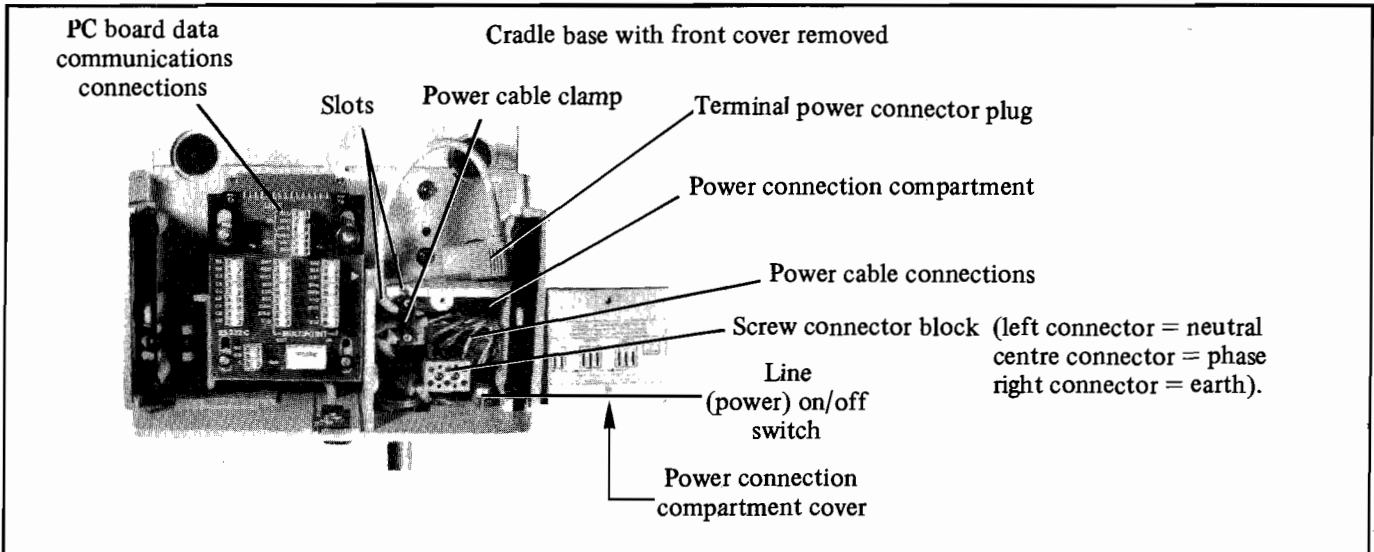

Figure 15-3 Power Supply Connection From The Base Of The Cradle
- 2) Unscrew and remove the power connection compartment plastic cover to gain access to the mains power screw connector block, see figure 15-3.
- 3) Within the power connection compartment, unscrew and remove the power cable clamp (see figure 15-3).
- 8) Pass the power cable through the power cable clamp housing. Connect the three wires into the screw connector block; left connector = neutral, centre connector = phase (i.e. line) and right connector = earth (ground). See figure 15-3.
- 11) Set the cradle LINE (power) switch to OFF (0).